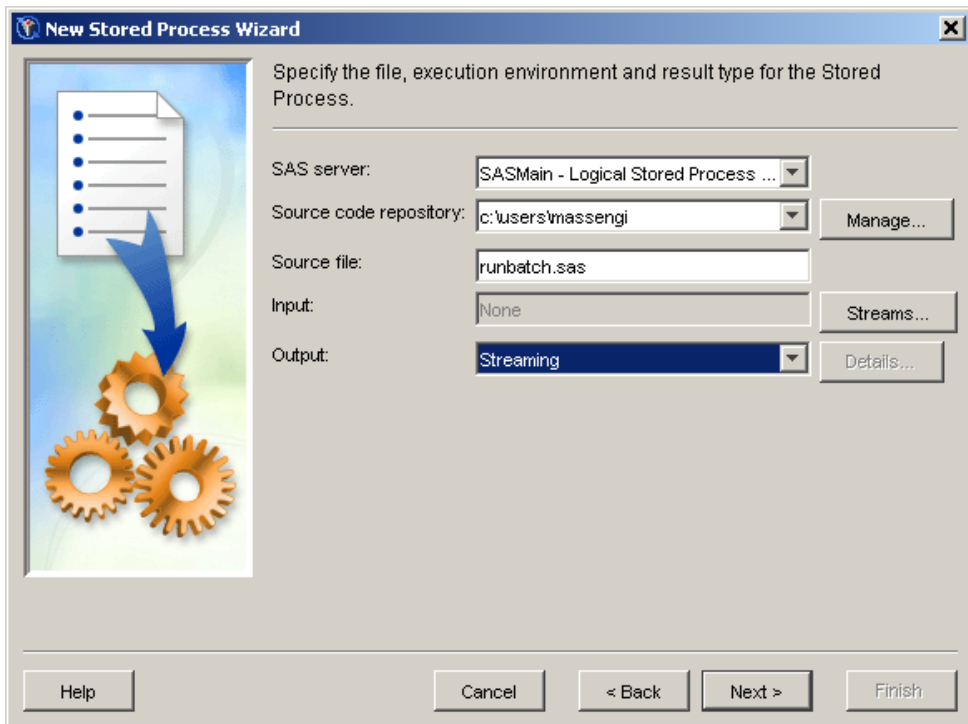

Figure 4. Specifying the server and program information
- b. On the next screen, enter the following information (see Figure 4) and click NEXT.